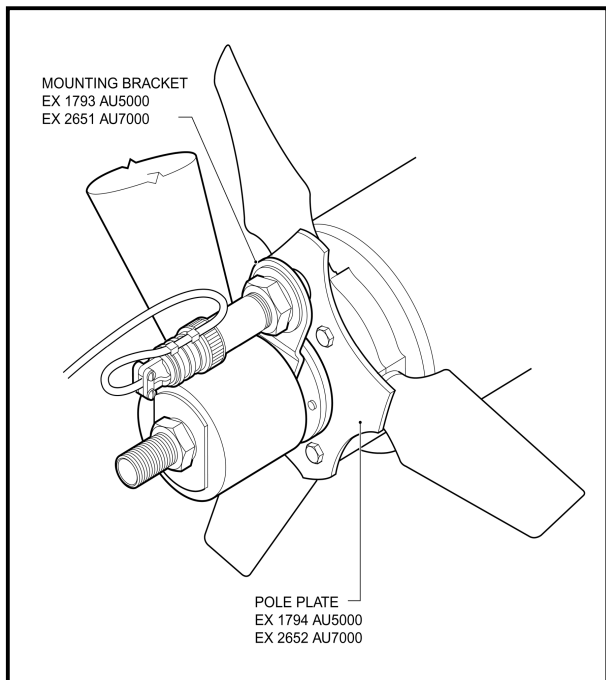

Fig. 7 – AU5000/7000 Cast Clamp
Remove the atomiser from its mounting clamp. Fit the transducer mounting bracket (EX1793 for AU5000 or EX2651 for AU7000) over the atomiser spindle as shown in Fig. 7. Ensure that the spindle passes through the smaller of the two holes in the bracket and that the bracket is positioned so that the bend faces away from the atomiser, giving maximum clearance between transducer flange and atomiser hub.
Fit one sensing tab under the head of each clamp ring securing bolt in place of the existing washer. Ensure that the radius at the corner of the tab is positioned to allow the tab to move back if it should touch the transducer whilst the atomiser is rotating (see Fig. 7).
6. Adjust the two nuts on the transducer body until the gap between the pip on the end of the transducer and tabs or 'finger' plate is 0.1" (2.5 mm) as shown in Fig. 7. Lock the transducer firmly in position.
7. Ensure that the gap set in (6) is the same for all tabs or 'fingers' of the plate. If necessary, bend the tabs or 'fingers' slightly to adjust the gap.